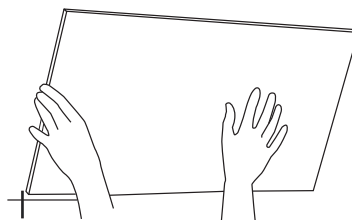

Fig. 2
- 4.5 Position the first tile in one of the corners of the cross shape drawn on the middle of the wall. Apply light pressure on the tile from the edges toward the center for a few seconds to ensure proper adhesion. **(Fig. 2)**